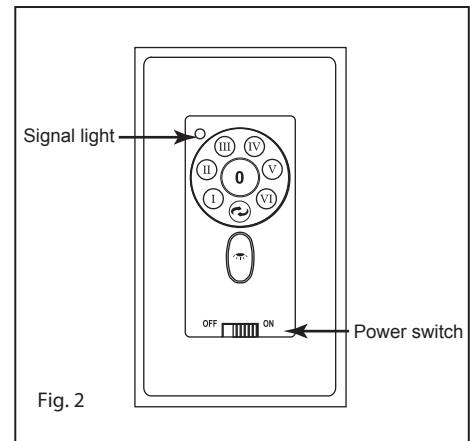

Fig. 2
- 3 Loosen the two security set screws and remove the downrod pin and retaining clip from the coupling on top of the motor assembly. (Fig. 2)
**2** Make wire connections from the fan to the receiver unit. For this step use the bundle of 5 wires on the receiver. (Fig. 2)
- 1 Locate 9 blade attachment screws. Slide one blade onto the motor as shown in Fig.2, aligning holes in blade with holes on the edge of the motor.
- 4 Install the wall transmitter on the existing wall outlet box using the screws provided. Attached the wall plate with the mounting screws to finish the installation. (Fig. 2)
- 7 Signal light (Fig. 2)